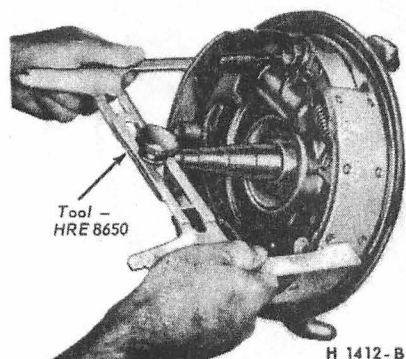

FIG. 6—Measuring The Brake Shoes
2. Reverse the tool as shown in Fig. 6 and apply to the brake shoes. Adjust the brake shoe diameter to fit the gauge. Hold the automatic adjusting lever out of engagement while rotating the adjusting screw, to prevent burring the screw slots. Make sure the adjust-